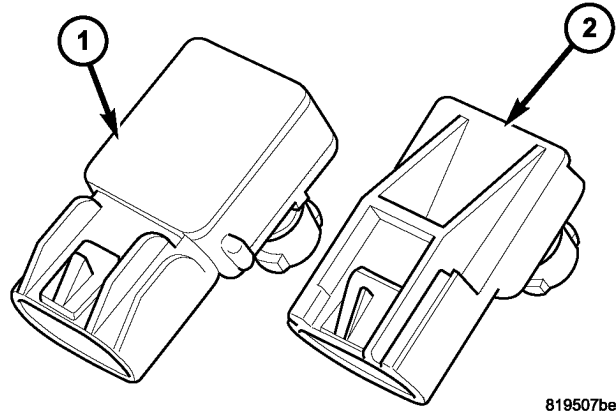
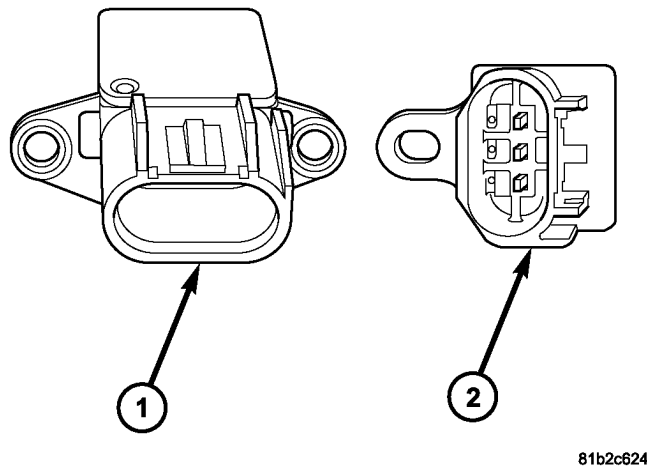

Fig. 2 LX MODELS - MAP SENSOR
Fig. 3 CS MODELS - MAP SENSOR
1. Inspect the MAP sensor (Fig. 2) for LX models or (Fig. 3) for CS models.